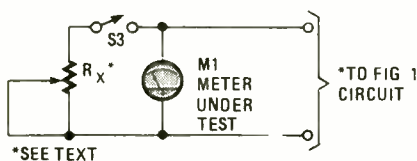

Fig. 3. A shunt resistance can be placed in parallel with any meter movement to increase the maximum allowable input current that the meter can handle.
**Shunt Resistance.** If you're not sure about using the resistance setting of your multimeter, try adding the circuit in Fig. 3 to the Fig. 1 test jig, thereby eliminating the worry. Actually, you're not combining two circuits, but are instead simply connecting a potentiometer in parallel (shunt) with the meter movement. Then all you need do is repeat the procedure outlined for using the test circuit in Fig. 1, and adjust the meter under test for a full-scale reading. Then close S3 and adjust  $R_x$  to reduce the meter reading to half scale.